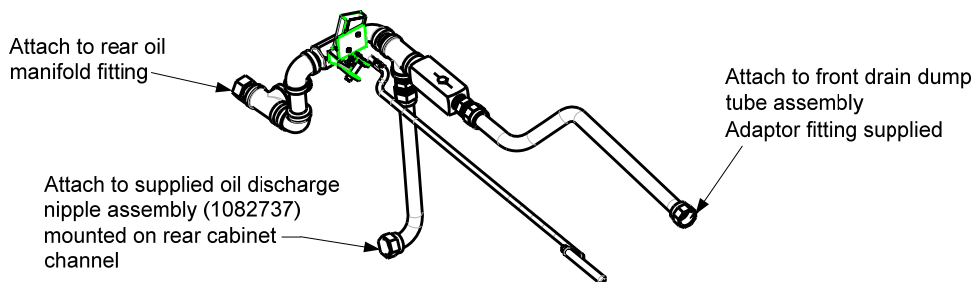

Figure 2: Rear oil assembly – Front View
7. Insert the new rear oil disposal assembly into position. The rod should slide between the first and second burners from left to right. See Figures 2 and 3.
12. Attach the rear fitting of the disposal assembly to the rear oil manifold. See Figure 2.